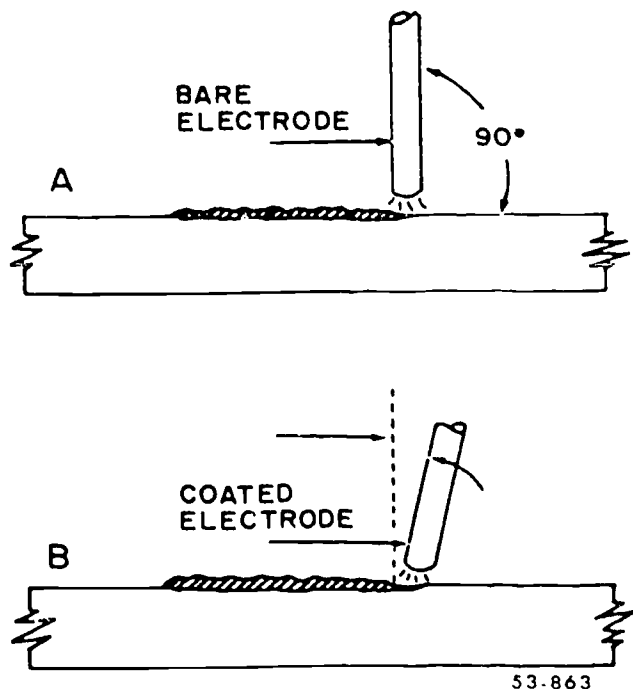

Figure 3-1. Electrode angle for making beads.
**Bead Welding.** In bead welding with bare or lightly-coated electrodes, hold the electrode at 90° to the base metal as shown in view A, figure 3-1. When you use coated electrodes, tilt the electrode 5° to 15° in the direction of travel, as shown in view B. Tilting the electrode gives you a clearer view of the crater and helps to control the molten slag. The proper arc length or gap between the end of the electrode and the plate should be approximately equal to the diameter of the electrode used. However, when striking the arc figure 3-2, and starting the weld, hold a long arc momentarily to preheat the base metal and permit fusion at the beginning of the weld. At the end of the weld, shorten the arc length to prevent forming a crater or depression.